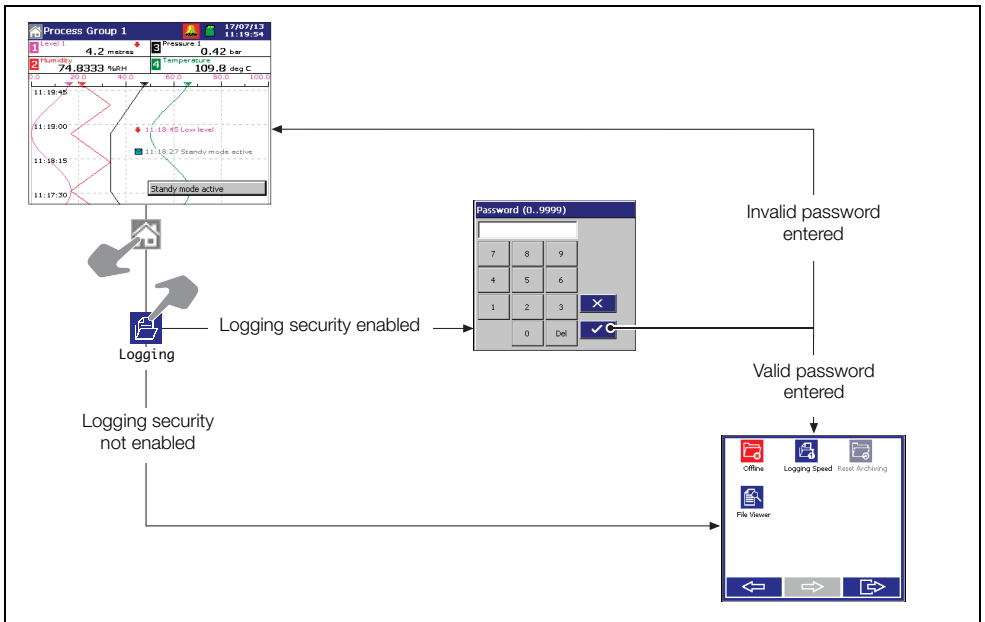

Fig. 5.1 Accessing logging – basic security
- If Security System is set to *Basic* and Logging Security is set to *On*, access to the Logging facility is protected by a single password for all users. Refer to Fig. 5.1 to access Logging.